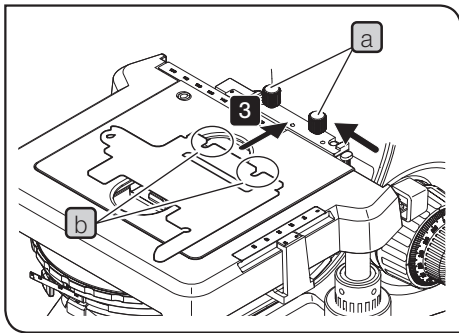

Fig.49
- 2** Loosen the specimen holder fixing knob **a** (2 pcs.) of the stage plate. (Fig.49 shows the procedures to attach the specimen holder for observing two slide glasses (U-HRDT-4).)